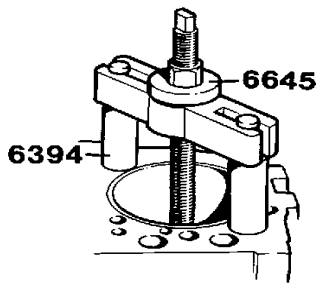

Fig. 47. Removing a cylinder liner
- Remove the cylinder liners using puller 6645 and support legs 6394 together with puller plate 2089 for the 100-series and puller plate 2955 for the 120-series (see fig. 47.)